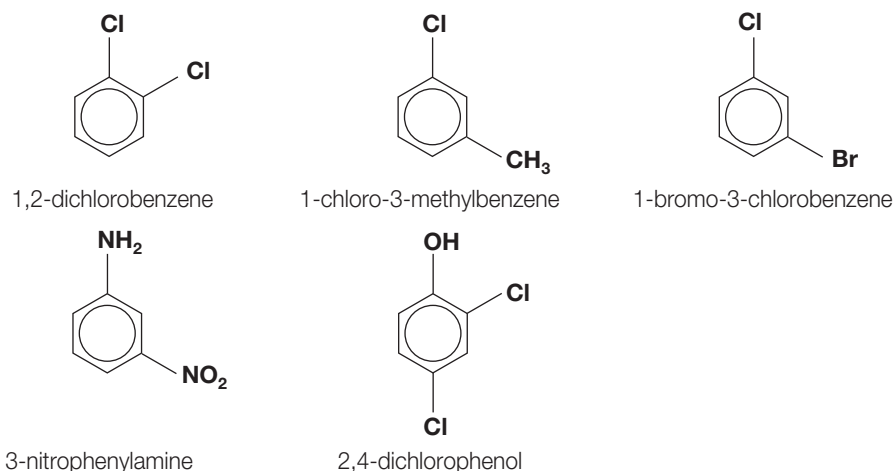

Figure 1.11 ▲
When more than one hydrogen atom is substituted, numbers are used to indicate the positions of substituents on the benzene ring (Figure 1.11). The ring is usually numbered clockwise, and the numbers used are the lowest ones possible. In some cases the ring is numbered anticlockwise to get the lowest possible numbers.
- 7 Why is the top right compound in Figure 1.11 named 1-bromo-3-chlorobenzene and not 1-chloro-3-bromobenzene?